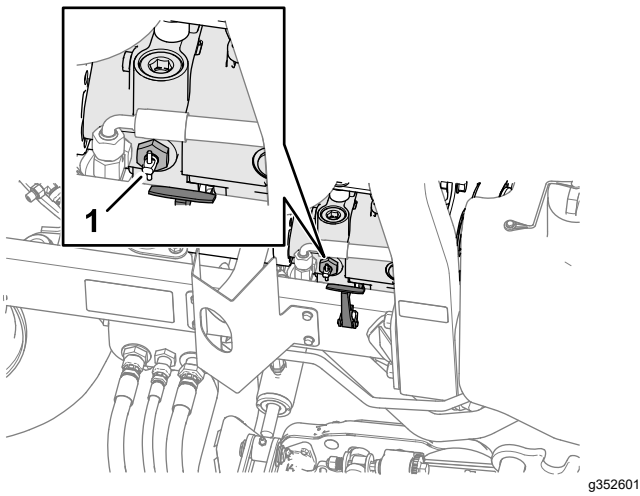

Figure 49
2. Near the right hood latch, rotate the handle bypass valve on the pump (Figure 49) and rotate the valve 90°.